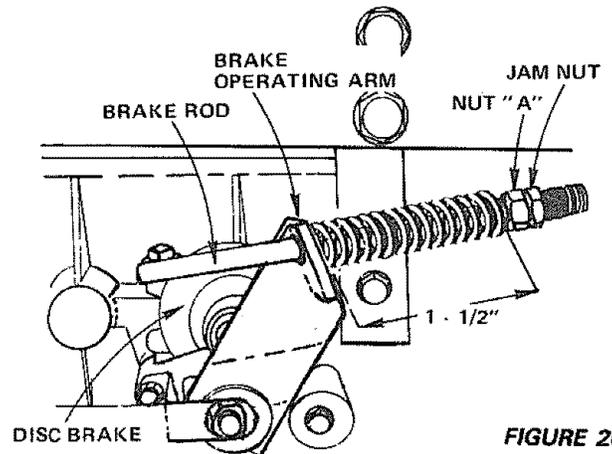

FIGURE 20
This tractor is equipped with an adjustable brake system mounted on the right side of the transaxle (Fig. 20).
- If distance is other than 1-1/2", disengage parking brake, loosen jam nut (Fig. 20) and turn nut "A" until distance becomes 1-1/2". Retighten jam nut against Nut "A".